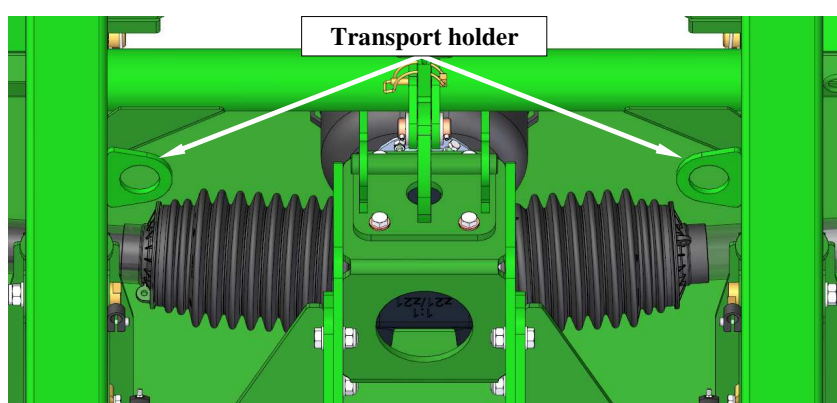

Fig. 5. Transport holders
- ❑ Grab the mower by any lifting devices only in places indicated by hook sign (**Fig. 5**),